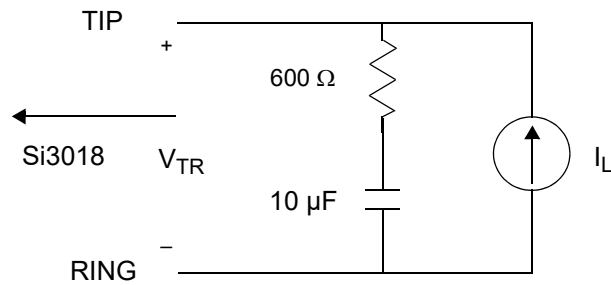

Figure 1. Test Circuit for Loop Characteristics
2. Measured at TIP and RING with 600  $\Omega$  termination at 1 kHz, as shown in Figure 1 on page 5.